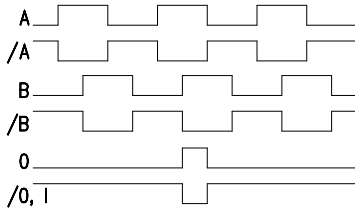

Fig. 2: Wave form
**Note:** state of signals A and B in regards to the reference signal 0 is not defined and can be different from fig. 2.